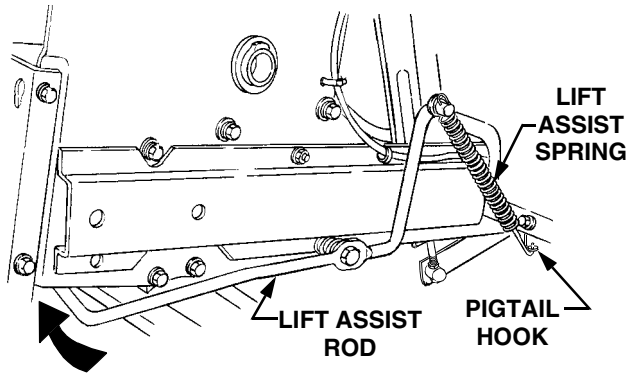

Figure 39
3. While lowering the rear end of the lift assist rod, guide the lower spring hook into the pigtail hook at the lower front of the fender (See Figure 39).
4. Tension the spring by pushing downward and then inward on the rear of the lift assist rod, so that the flange at the rearward end of the rod is inside the tractor frame (See Figure 39).